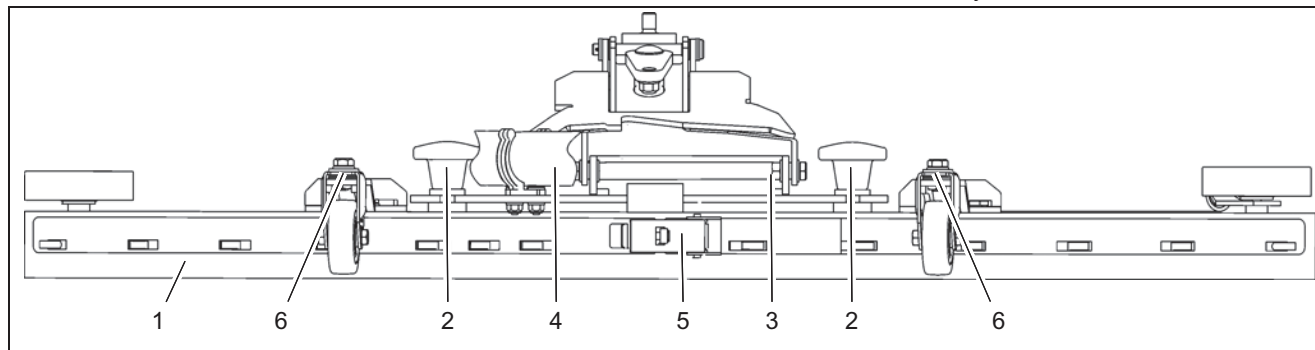

Fig.12
Check the squeegee (Fig. 12/1) daily and clean as necessary.
To clean it lift the squeegee out, pull off the suction hose (Fig. 12/4), loosen the two star-shaped knobs (Fig. 12/2) and remove the squeegee.
Check the inner and outer sealing strips on the squeegee (Fig. 12/1) weekly for signs of wear. The sealing strips can be used fourfold by turning them.
3. Unlock the fastening device (Fig. 12/5) and remove the outer sealing strip. Turn the sealing strip or install a new one, as necessary. Change the inner sealing strip in the same way.